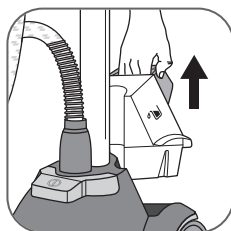
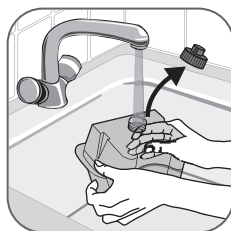

fig. 7
fig. 8
- Ensure that the steamer is unplugged. Remove the water tank from the base of the appliance by pulling the handle upwards (fig. 7). Unscrew the tank cap and fill the tank. (fig. 8). Maximum capacity is indicated by the "max" mark.